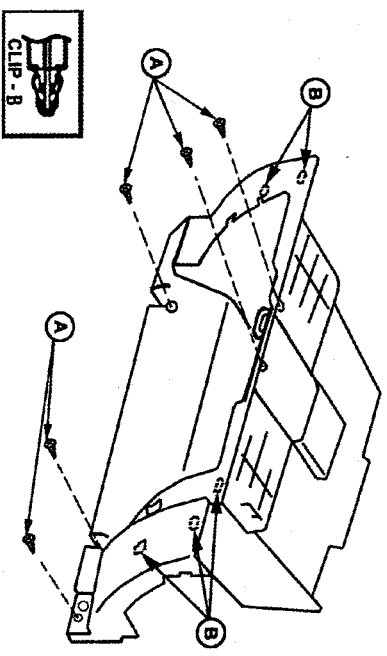

FIGURE 22
- 4.) REMOVE THE MOUNTING SCREWS (A) (5 LOCATIONS). (SEE FIGURE 22)
- 5.) PULL THE GLOVE COMPARTMENT OUTWARD AND DETACH CLIPS (B) (5 LOCATIONS). (SEE FIGURE 22)